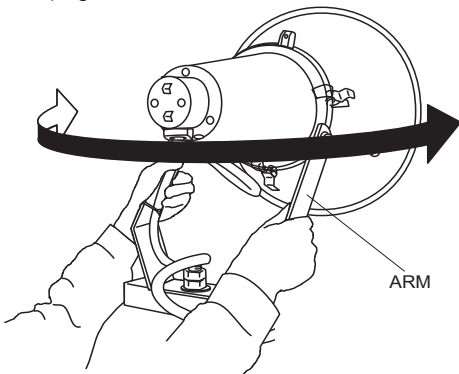

Figure 16. Adjusting Direction of Individual Lamp
1. Hold the arm of the lamp and turn it to the desired direction (Figure 16).